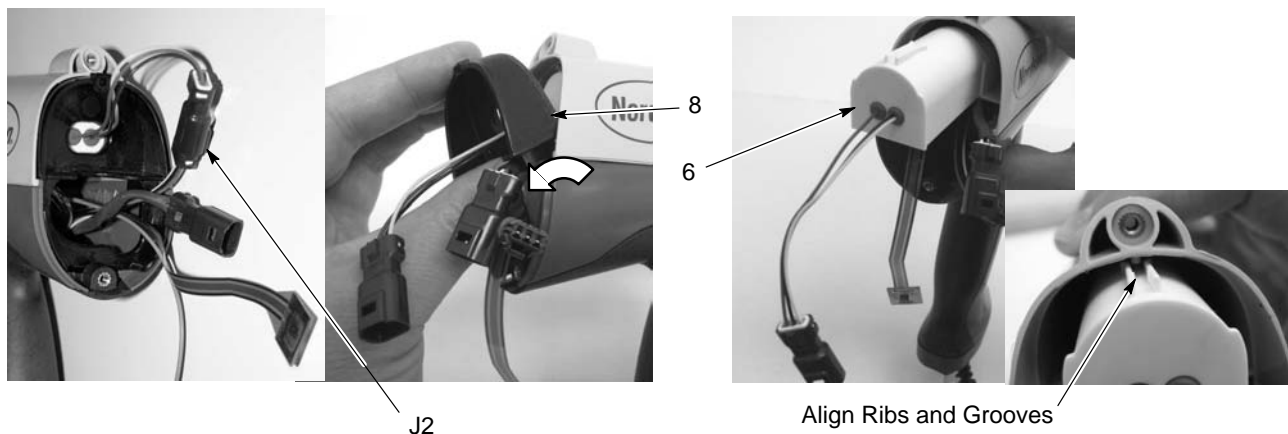

Figure 5-2 Power Supply Replacement
2. See Figure 5-2. Insert a small screwdriver into the recess in the J2 gun cable/power supply connectors to release the catch and disconnect the connectors.
3. Pull on the top of the bulkhead (8) to remove it from the gun.
4. Slide the power supply (6) out of the gun body and pull the power supply leads and connector out of the bulkhead.